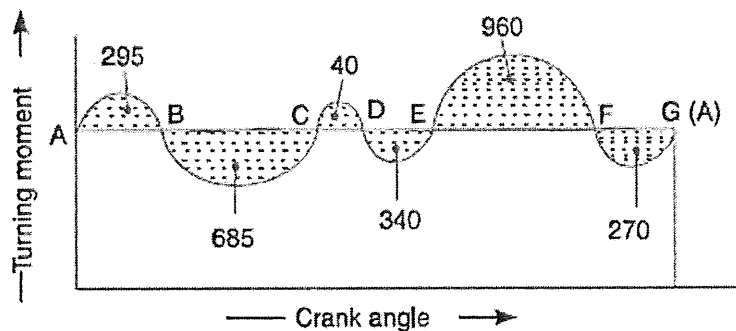

Figure 5
- c) The turning moment diagram for a petrol engine is drawn to the following scales: Turning moment, 1 mm = 5 Nm; crank angle, 1 mm = 3° horizontally shown in Figure 5. The turning moment diagram repeats itself at every half revolution of the engine and the areas above and below the mean turning moment line taken in order are 295 mm2, 685 mm2, 40 mm2, 340 mm2, 960 mm2, 270 mm2 when the engine is running at a speed of 600 rev/min. If the total fluctuation of speed is not to exceed  $\pm 1.5\%$  of the mean, **determine** the necessary mass of the flywheel of radius 0.5 m.